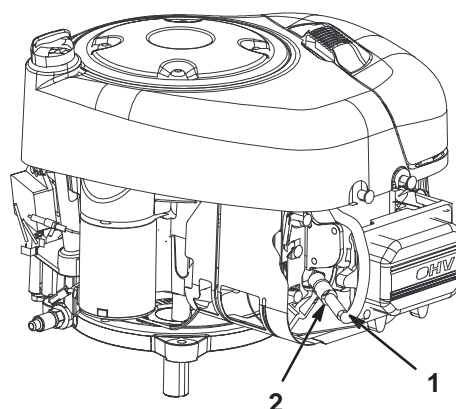

Figure 23
6. Reach under the body of the machine above the left rear wheel and disconnect the wire from the spark plug (Fig. 23).
3. Connect the wire to the spark plug (Fig. 23).